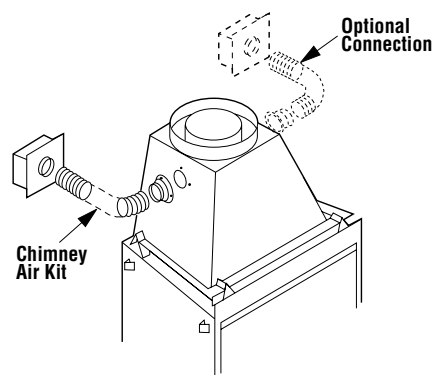

**Figure 18**
**Step 5.** Fireplace should be secured to side framing members using the full length nailing tabs at the top and bottom of the fireplace front face. Use 8d nails or equivalent (Figure 18).